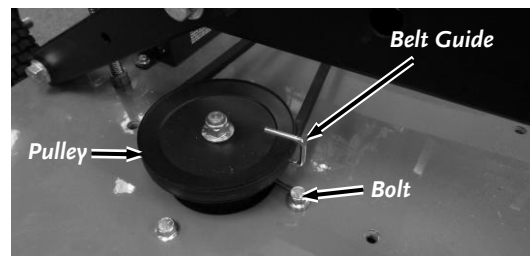

Figure 48
7. Loosen the Bolts securing the Belt Guides (*two for Pro 44TF and three for Pro XL60TF*) at the Blade Pulleys using a 9/16" Wrench (Figure 48). Rotate the Belt Guides away from the Pulleys.